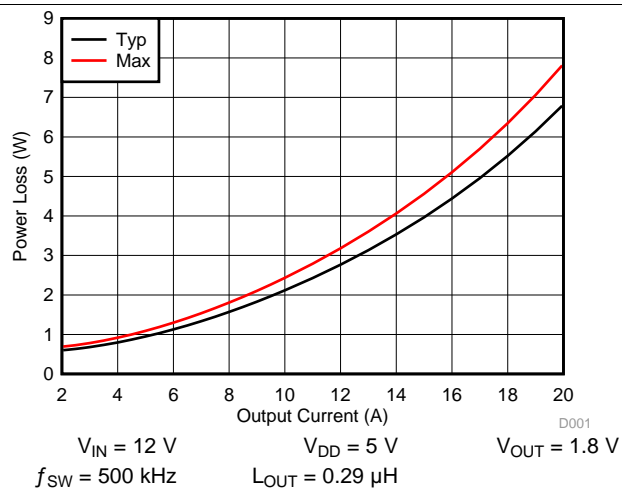

Figure 1. Power Loss vs Output Current
MOSFET centric parameters such as  $R_{DS(ON)}$  and  $Q_{gd}$  are primarily needed by engineers to estimate the loss generated by the devices. In an effort to simplify the design process for engineers, Texas Instruments has provided measured power loss performance curves. Figure 1 plots the power loss of the CSD97376Q4M as a function of load current. This curve is measured by configuring and running the CSD97376Q4M as it would be in the final application (see Figure 15). The measured power loss is the CSD97376Q4M device power loss which consists of both input conversion loss and gate drive loss. Equation 1 is used to generate the power loss curve.
The power loss curve in Figure 1 is measured at the maximum recommended junction temperature of  $T_J = 125^\circ\text{C}$  under isothermal test conditions.
- Typical power loss at 10 A = 2.1 W (Figure 1)